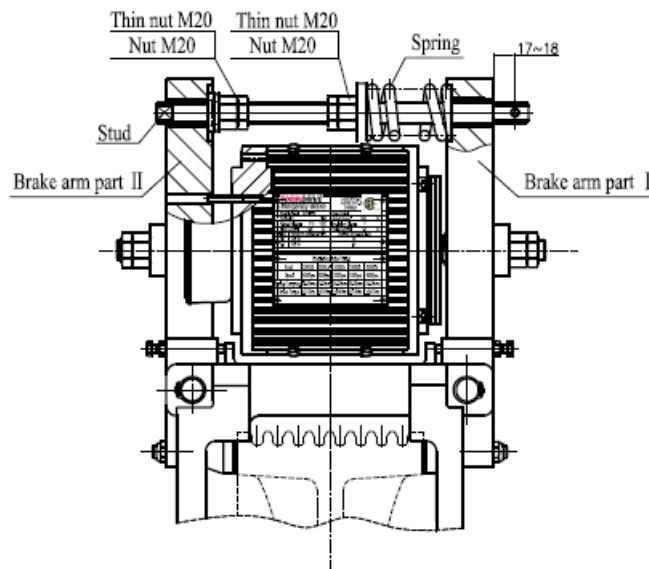

Figure 17 Emergency Brake Stud Location
7. Measure the distance between the center hole of Stud and Brake arm part I (17mm~18mm). See Figure 17.
8. If the distance is too small, write down the two (2) thin nut's distances (L); loosen the thin nut M20 and nut M20 to free the spring. See Figure 17.